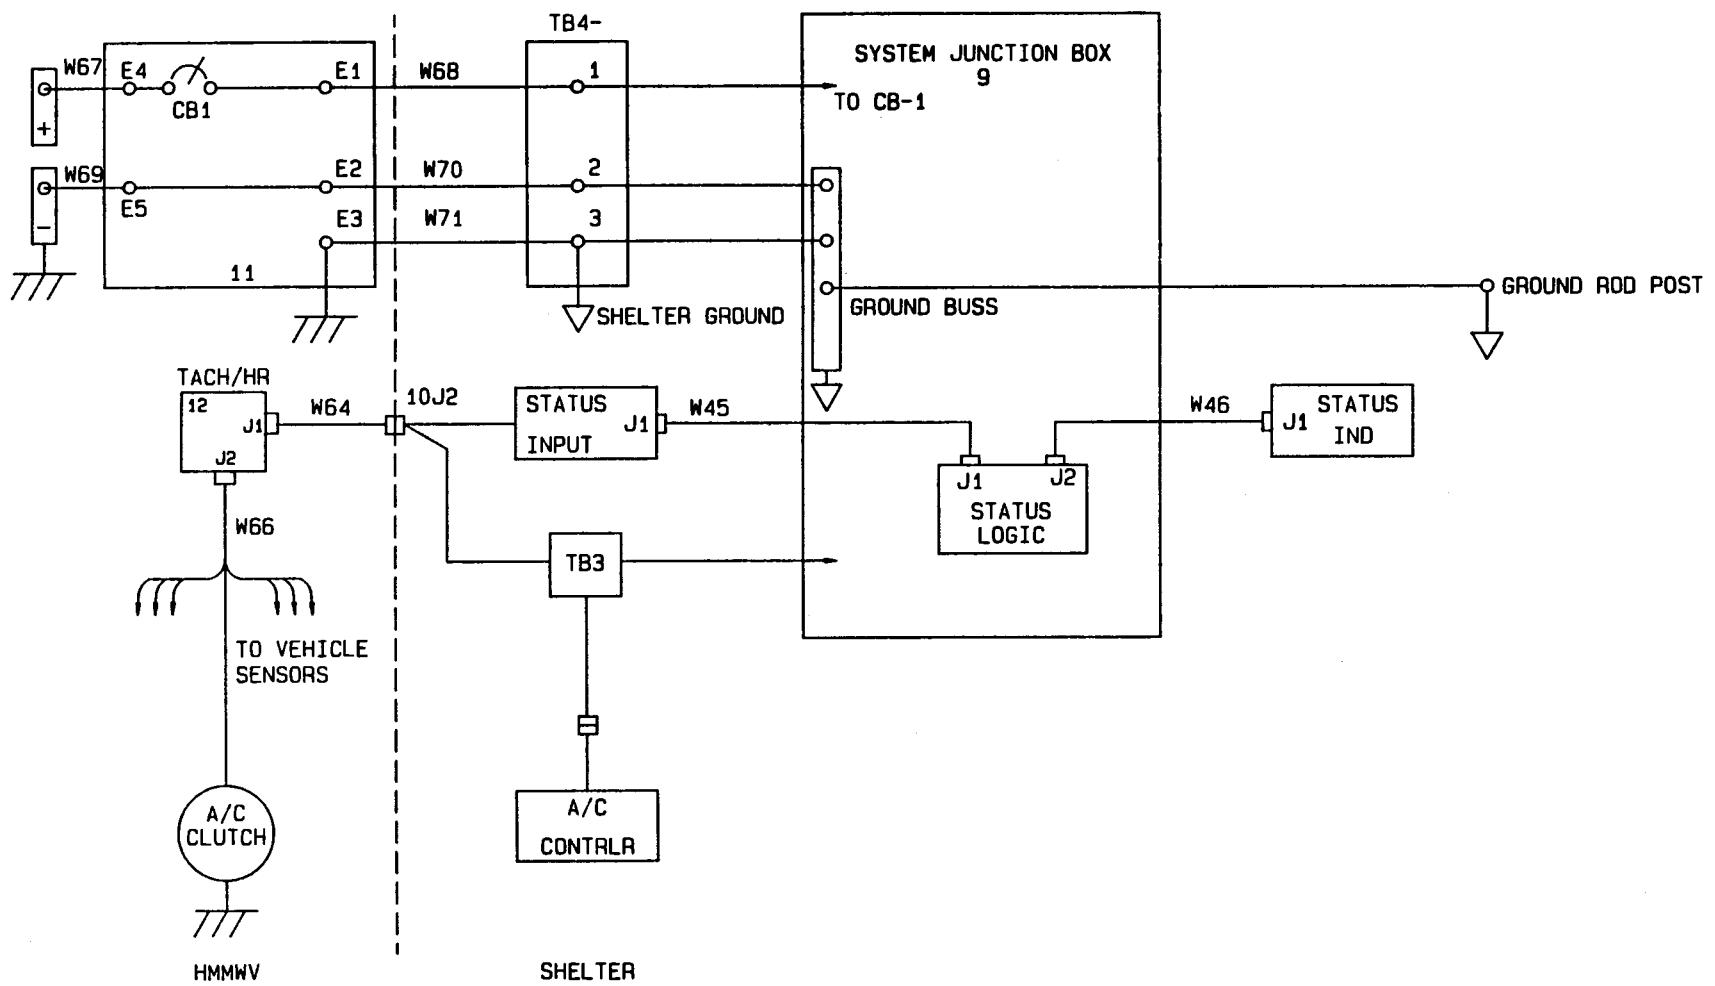

Figure 3-1. Status Warning System
(1) Question operator to obtain any information that might help you determine the cause of the problem.
(2) Never overlook the chance that the problem could be of simple origin. The problem could be corrected with minor adjustment.
(3) Use all senses to observe and locate troubles.
(4) Use test instruments or gages to help you determine and isolate the problem.
(5) Always isolate the system where the malfunction occurs and then locate the defective component.
(6) Review figure 3-1 to help in isolating the fault and understanding the equipment configuration.
4. WITH PARKING BRAKE NOT SET, PARKING BRAKE DASH LIGHT IS OFF, AND STATUS INDICATOR ALARM AND LIGHT DO NOT COME ON (REFER TO FIGURES 3-1 THRU 3-3)
5. ENGINE OIL PRESSURE GAGE DISPLAYS NORMAL READING AND STATUS INDICATOR ALARM AND LIGHT ARE ON (REFER TO FIGURES 3-1 THRU 3-3)